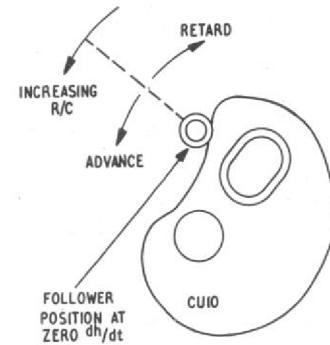

Fig. 11. Adjustment of vertical speed cam CU10
92. Check that cam CU10 and follower are positioned as shown in fig. 11. If they are not proceed as follows:—
- (1) 3000 UP the greater, advance the cam follower of CU10 as shown in fig. 11.
- (2) 3000 DOWN the greater, retard the cam follower of CU10 as shown in fig. 11.
- (3) Repeat from para. 93 until a satisfactory result is obtained.